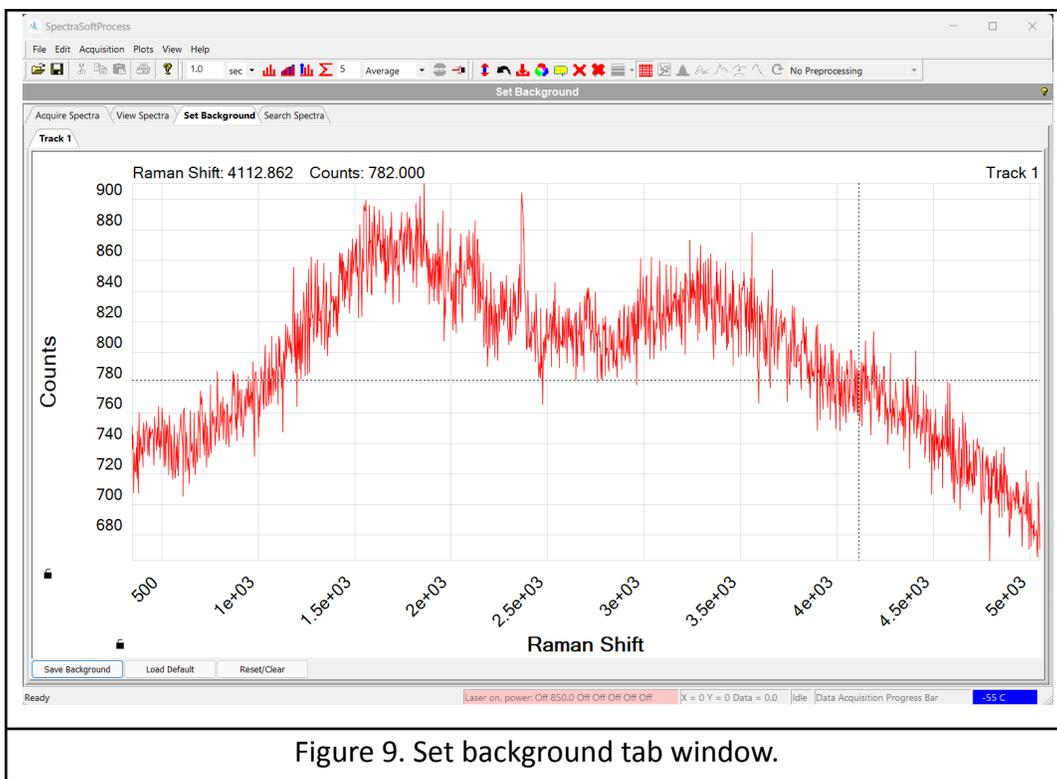

Figure 9. Set background tab window.
2. Background correction can be performed on acquired spectra by acquiring and saving the background spectrum in the Set Background tab seen in Figure 9.